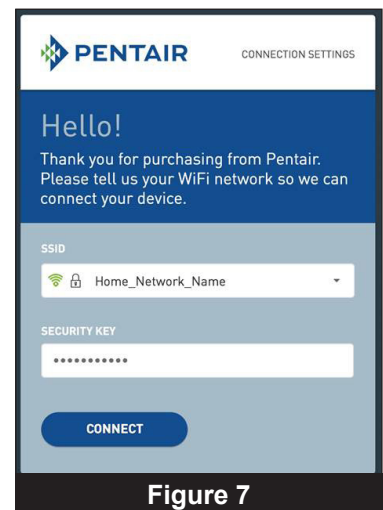

Figure 7
5. The pairing page will display. Select your WiFi router from the drop down SSID list and enter your router password into the security key field. See **Figure 7**.
6. Press CONNECT. See **Figure 7**.